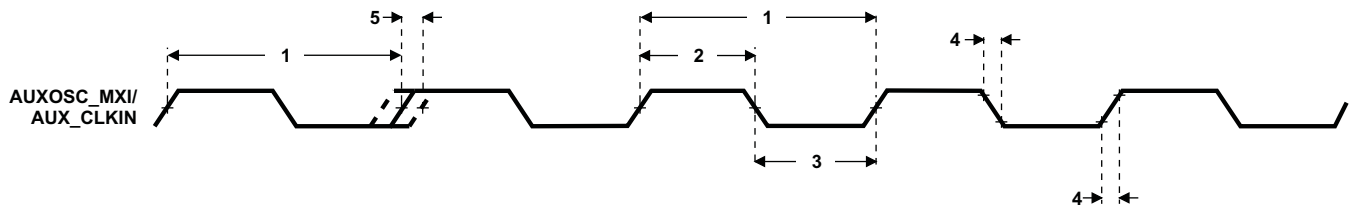

Figure 8-13. AUX_MXI/AUX_CLKIN Timing
Table 8-16. Timing Requirements for AUX_MXI/AUX_CLKIN^{(1) (2)} (see Figure 8-13)